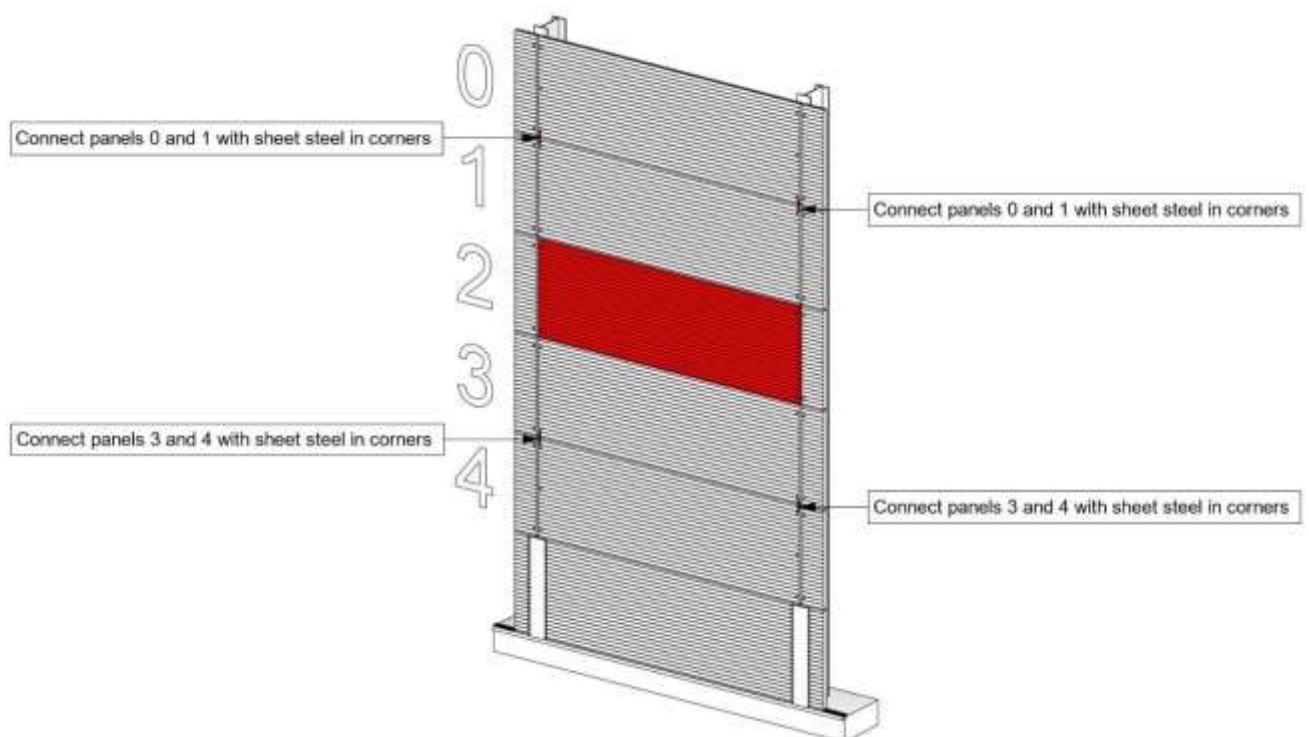

Fig. 13.4
STEP 3. Connect panels 0 and 1, 3 and 4 with sheet steel in both corners at the far end (Figure 13.4). Choose binding points in a way that eventually it is possible to cover them with flashings. The maximum permissible load per screw is 25 kg.